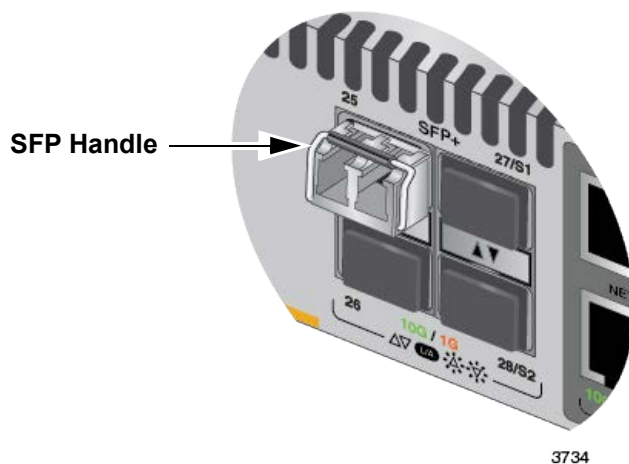

Figure 87. Positioning the SFP or SFP+ Handle in the Upright Position
6. Verify the position of the handle on the transceiver. If the transceiver is in a top port, the handle should be in the upright position, as shown in Figure 87. If the transceiver is in a bottom port, the handle should be in the down position.